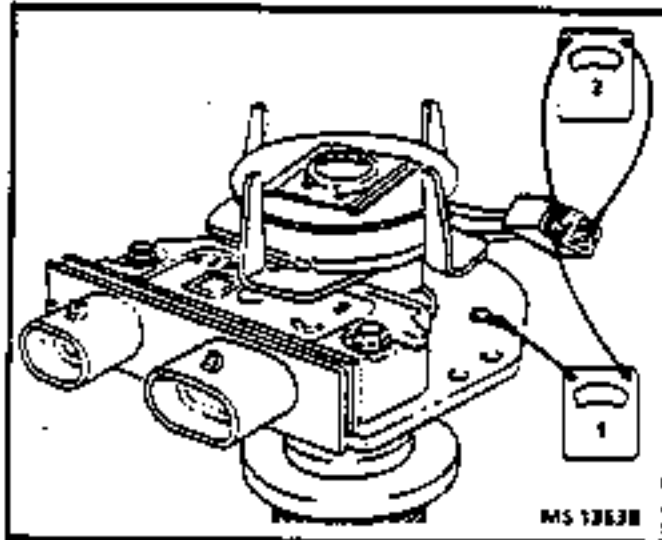

Figure 12 - Testing the Pickup Coil
- Connect an ohmmeter to either pickup coil lead and the housing as shown in Figure 12, Step 1. The reading should be infinite. If not, replace the coil.
- Connect an ohmmeter to both pickup coil leads as shown in Figure 12, Step 2. Flex the leads by hand at the coil and the connector to locate any intermittent opens. The ohmmeter should read a constant unchanging value in the 500 to 1500 ohm/range. If not, replace the coil.